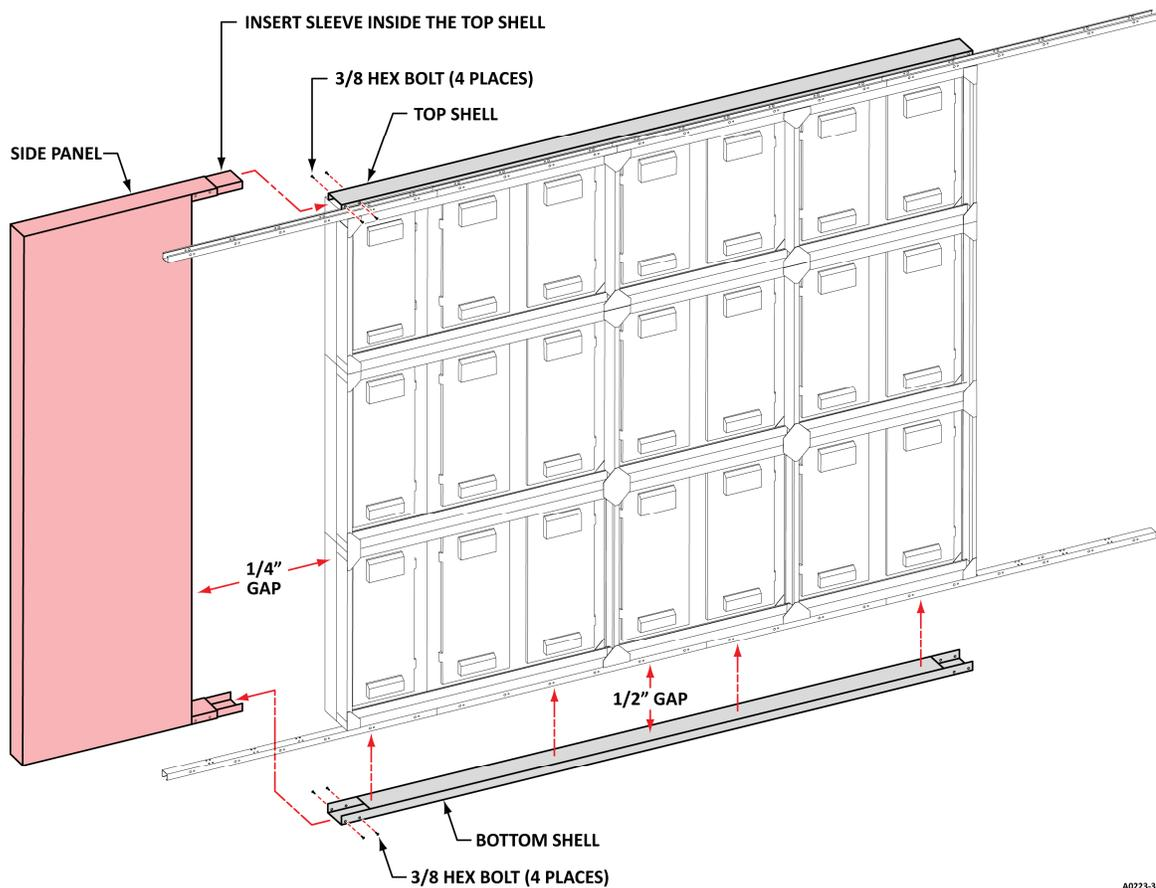

FIGURE 16 – SIDE PANEL TO TLVISION SECTION
- Install the Side Panel into place and by inserting the sleeve into the Top Shell. See Figure 16 below. It is normal to have a 1/4" gap between the Side Panel and the TLVision cabinet.